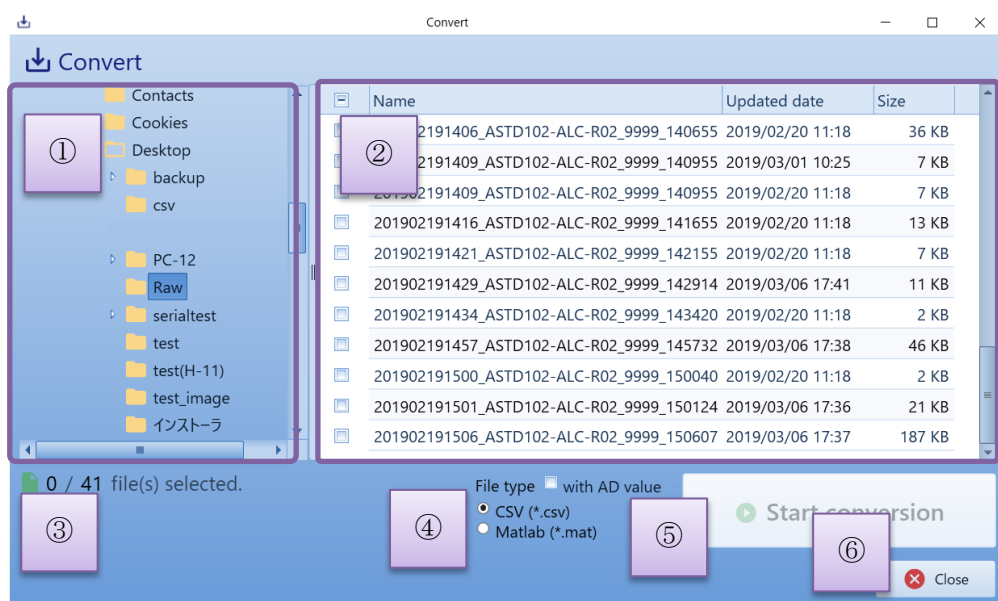

Figure 6.34 File conversion window
- (1) Launch the software.
- (2) Choose [File > Convert] to open “file conversion” window. (Figure 6.34 / Table 6.4)